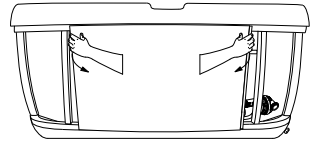

Figure 13.2f
4. Now you need to remove the center panel. Grab the sides of the panel and gently pull the cabinet forward until all the clips have been release then pull up to remove, Figure 13.2f. Place the panel in a safe location to prevent from damaging it.